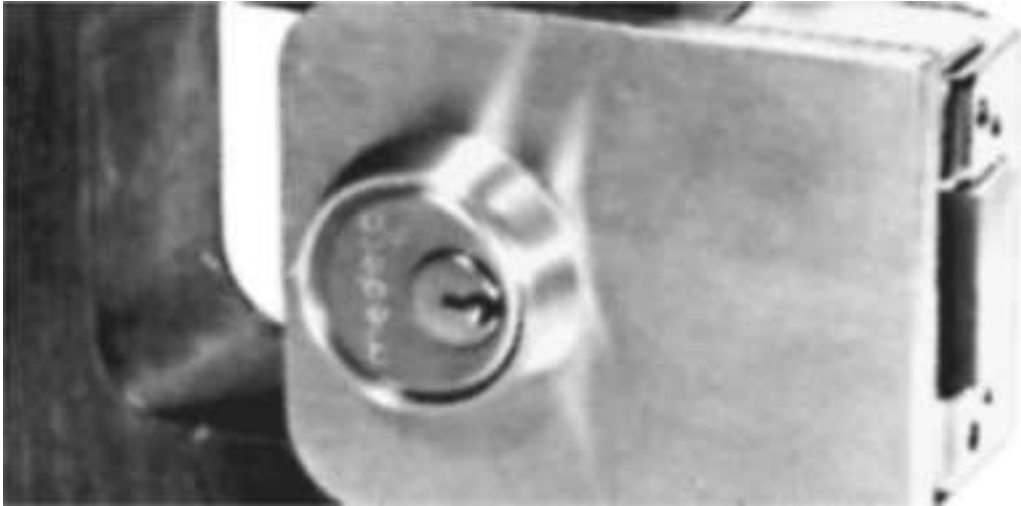

**Figure 13.39** Slide lock into cutout.
10. With the lock assembled and the cover in place, slide the unit into the door cutout (Fig. 13.39 ). Position it so that the longest escutcheon is flush with the high edge of the door bevel.